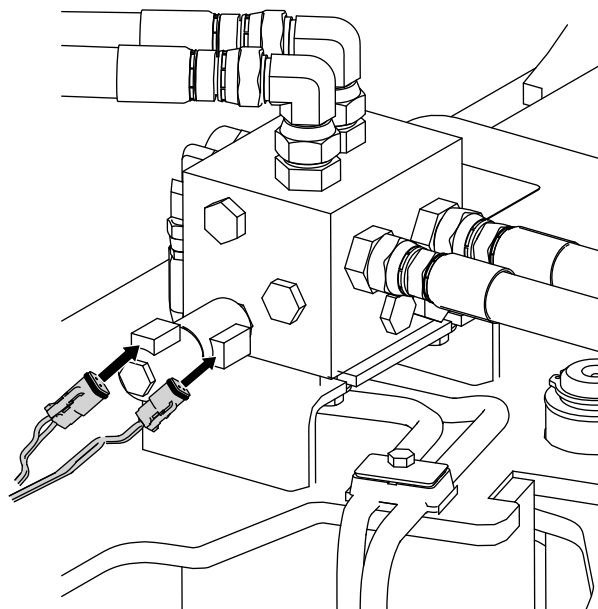

Figure 8
15. Route the 2 free connectors on the Y-adapter to the open connectors left side of the manifold and connect them (Figure 8).